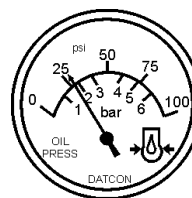

Figure 52. Oil Pressure Gauge
14. The engine oil pressure gauge (Figure 52) will indicate the oil pressure (kg/cm²) of the engine. Under normal operating conditions the oil pressure should be approximately 25 psi.